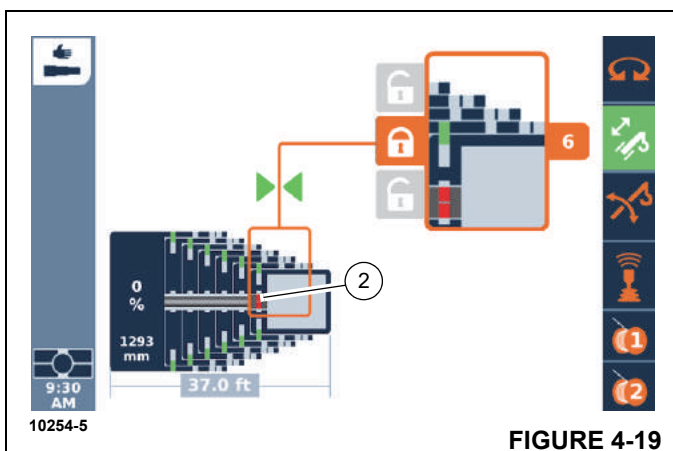

FIGURE 4-19
2. Confirm the selection – the locking pins (2, Figure 4-19) will retract.